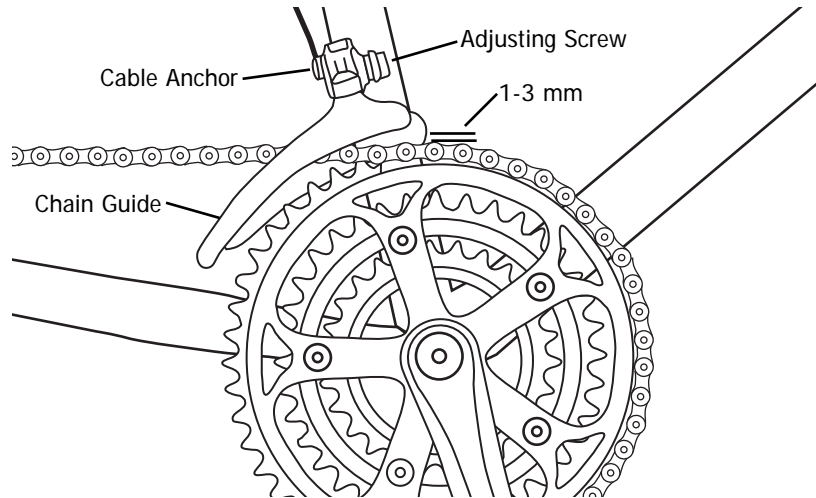

FIGURE 9 - Front derailleur position. Lower edge of outer chain guide should be 1mm to 3mm above the top of the large chainring.
- The lower edge of the outer chain guide should be positioned 1mm to 3mm above the large chainring teeth when it is directly above them. (See Figure 9)